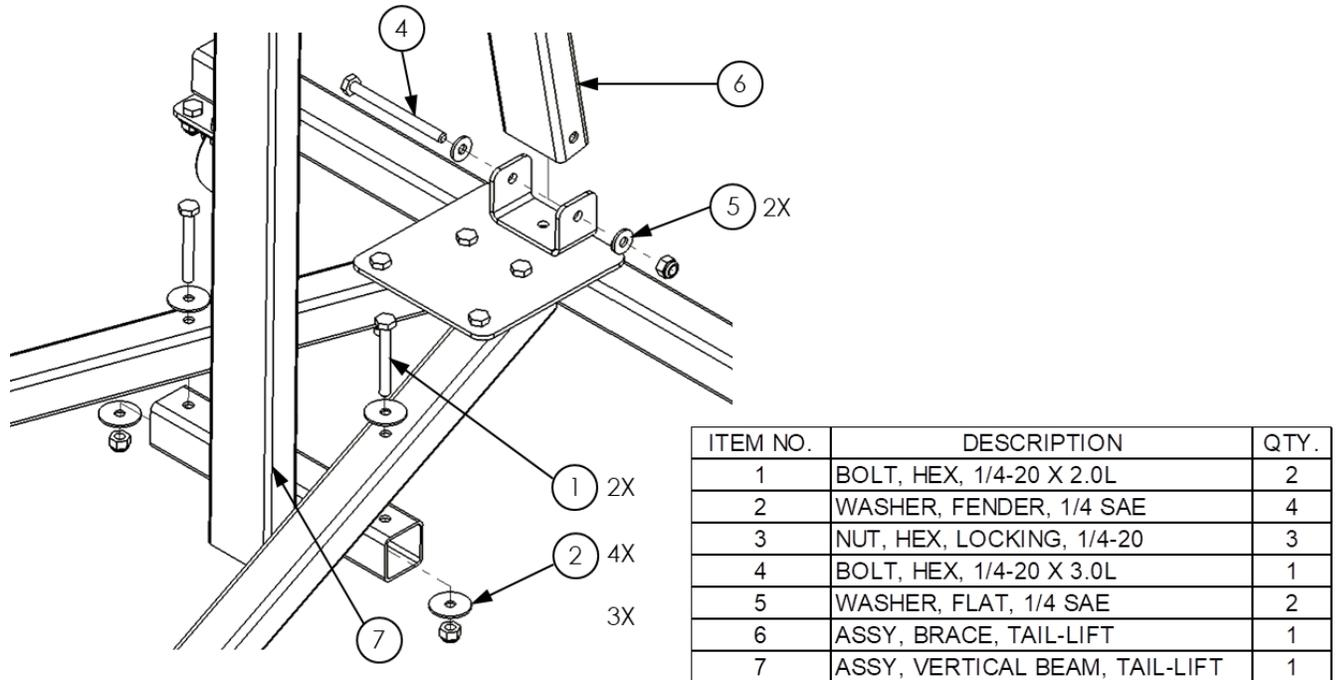

Figure 2
### Beam Mounting (Figure 2)
1. Slide Brace Beam Assembly (Item 6, Figure 2) into the Vertical Beam Assembly (Item 7, Figure 2).
2. Install bolt (Item 4, Figure 2). Do not tighten this bolt/nut at this time.